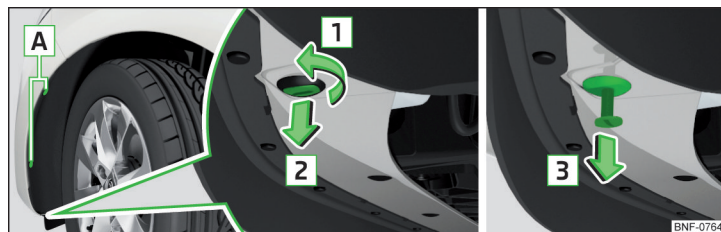

Fig. 145 Remove wheel arch trim
- Use the on board tool to remove screws **A** » Fig. 145 from the wheel well.
- Push in the part of the expansion rivet with a slit **2** and turn it a quarter of one turn in the opposite direction to arrow **1** » Fig. 145.